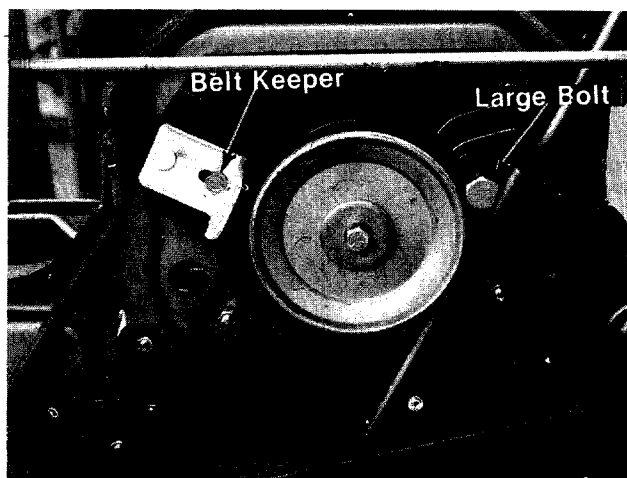

FIGURE 33.
2. Remove the belt keeper and large bolt on the engine pulley. See figure 33.
2. Remove the belt keeper and large bolt on engine pulley. See figure 33.